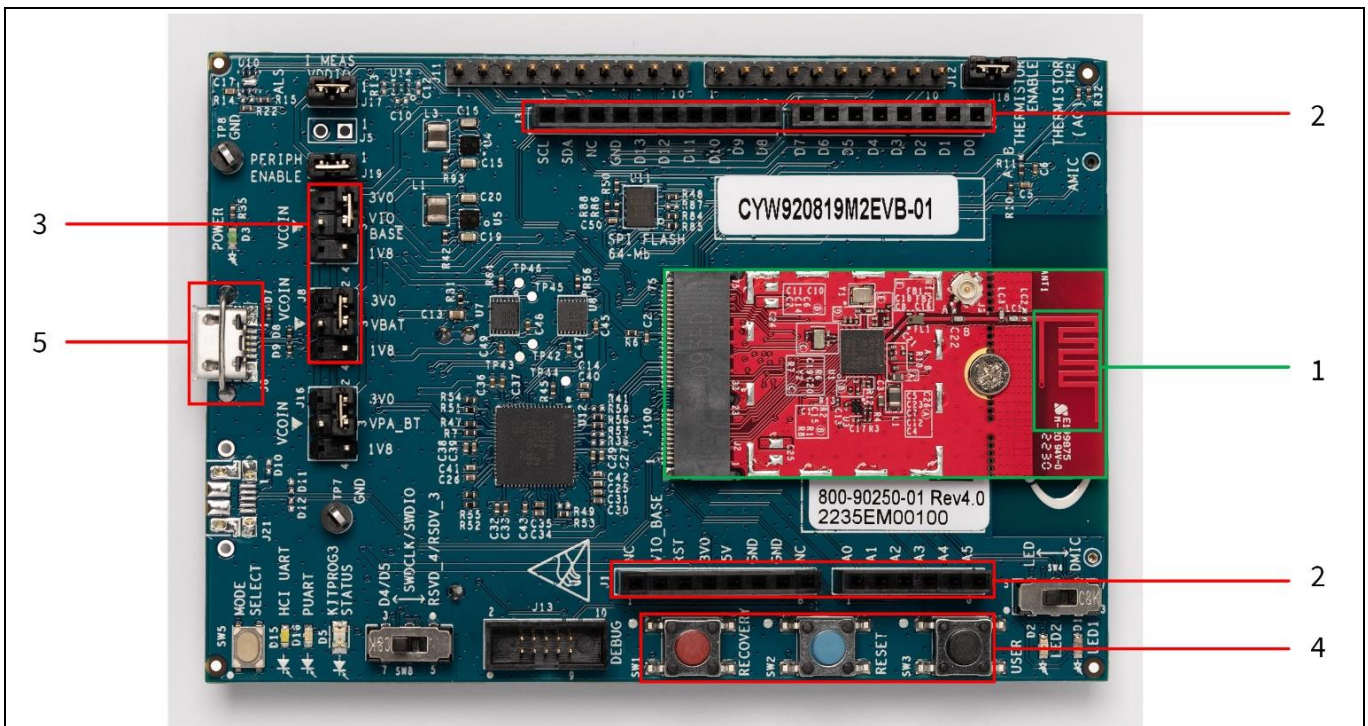

Figure 2 CYW920819M2EVB-01 evaluation board
Figure 2 shows CYW920819M2EVB-01 evaluation board with the following features:
1. Verify that all the jumpers are in the default configuration as shown in Table 4 to Table 9, so that Peripheral UART is selected and can display embedded application trace messages. Figure 2 shows the default jumper locations.